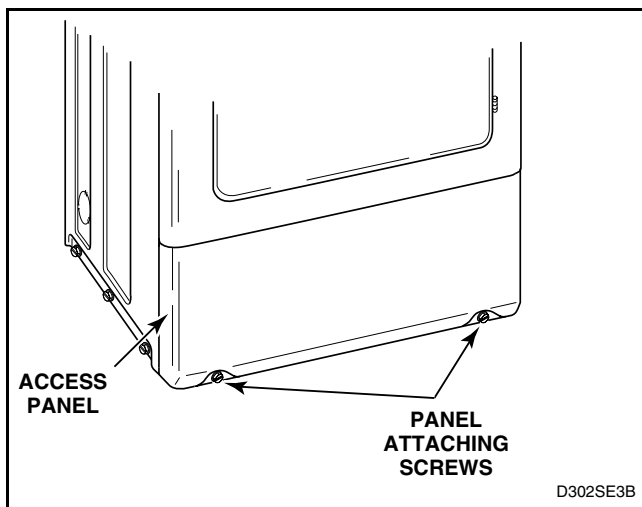

Figure 48
- While supporting the lower access panel, remove two screws from bottom edge of lower access panel. Refer to *Figure 48*.
- a. While supporting the lower access panel, remove two screws from bottom edge of lower front access panel. Refer to *Figure 48*.
- a. While supporting the lower access panel, remove two screws from bottom edge of lower access panel. Refer to *Figure 48*.